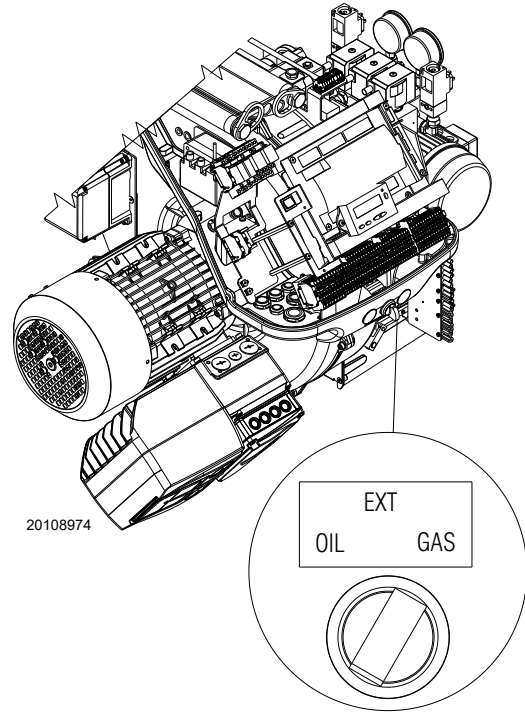

Fig. 44
- Put the switch to the “OIL” (Fig. 44) position for light oil operation and “GAS” for gas operation.
- 1 with the “OIL-EXT-GAS” selector (Fig. 44);